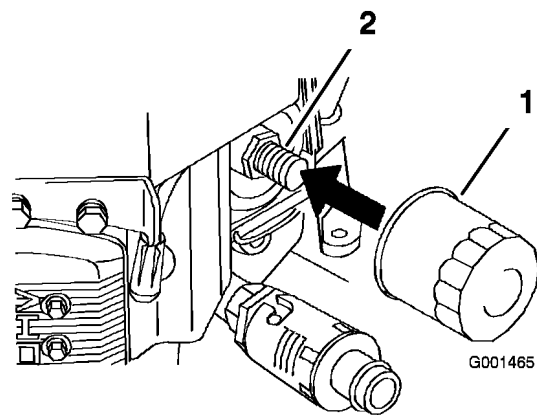

Figure 32
2. Remove the old filter (Figure 32).
3. Apply a thin coat of new oil to the rubber gasket on the replacement filter (Figure 32).
4. Install the replacement oil filter to the filter adapter, turn the oil filter clockwise until the rubber gasket contacts the filter adapter, then tighten the filter an additional 3/4 turn (Figure 32).